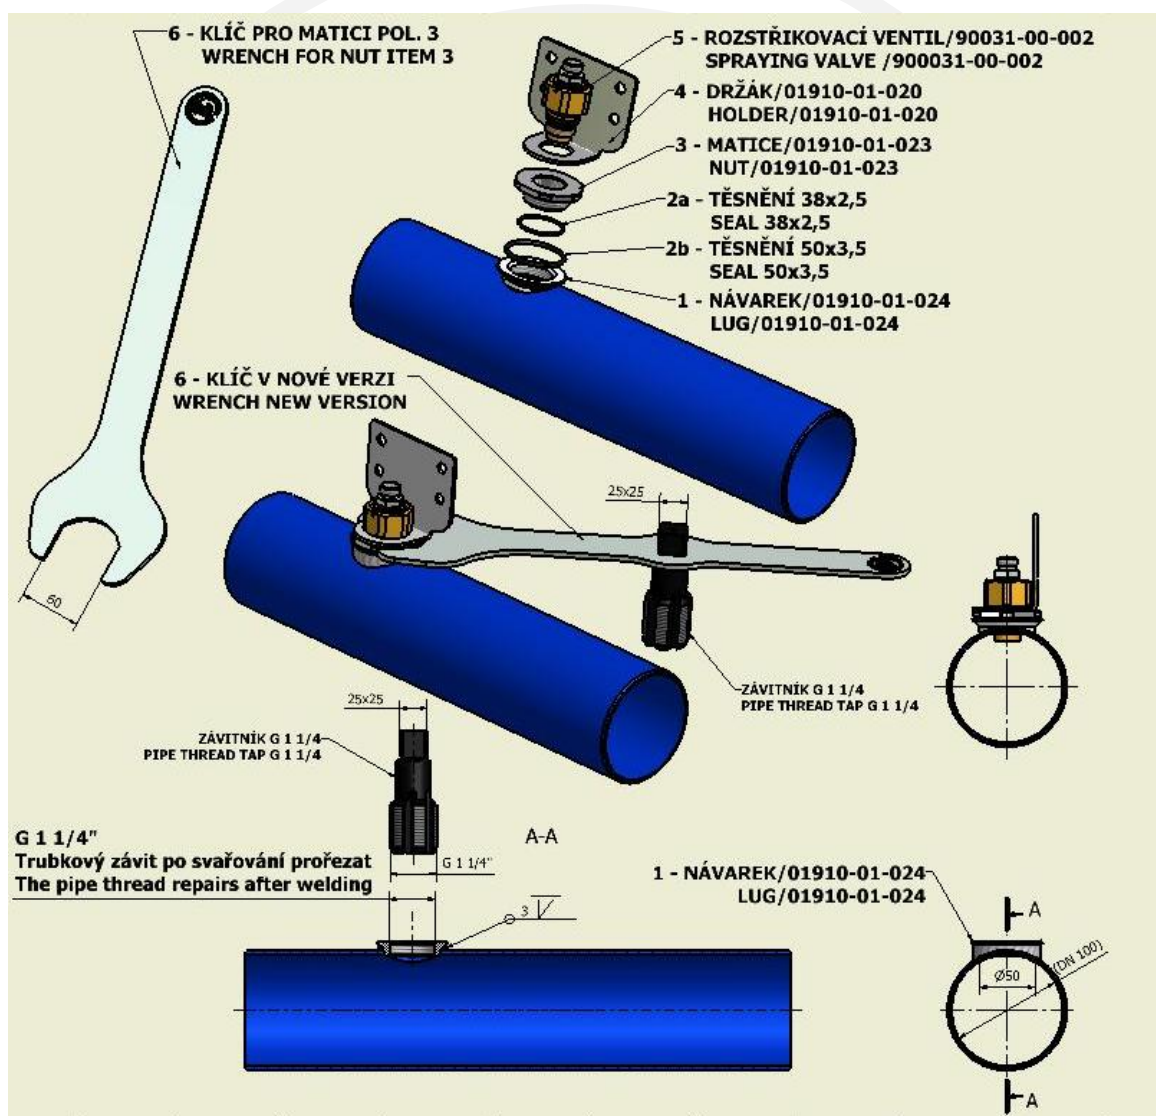

Figure 4.2 The Spraying valve installation to the pipeline
B) For the correct functioning of the Spraying valve and for ideal rinsing by the product it is necessary to install the Spraying valve as shown in figure 4.2.
1. First it is necessary to weld the lug-position 1 on the pipe as shown in figure 4.2. We proceed with caution so that deformation of the lug is as small as possible (superpose two or three weld bead and cool down the pipe for example with a wet rag). After welding the pipe thread and cooling it, we cut a thread G 1 ¼ with the manual pipe thread tap G 1 ¼.
2. Subsequently we will install in sequence the items 3 (2a, 2b and 3 together), 4 and 5 as shown in figure 4.2.
2. Spraying valve install to the pipeline as shown in figure 4.2.